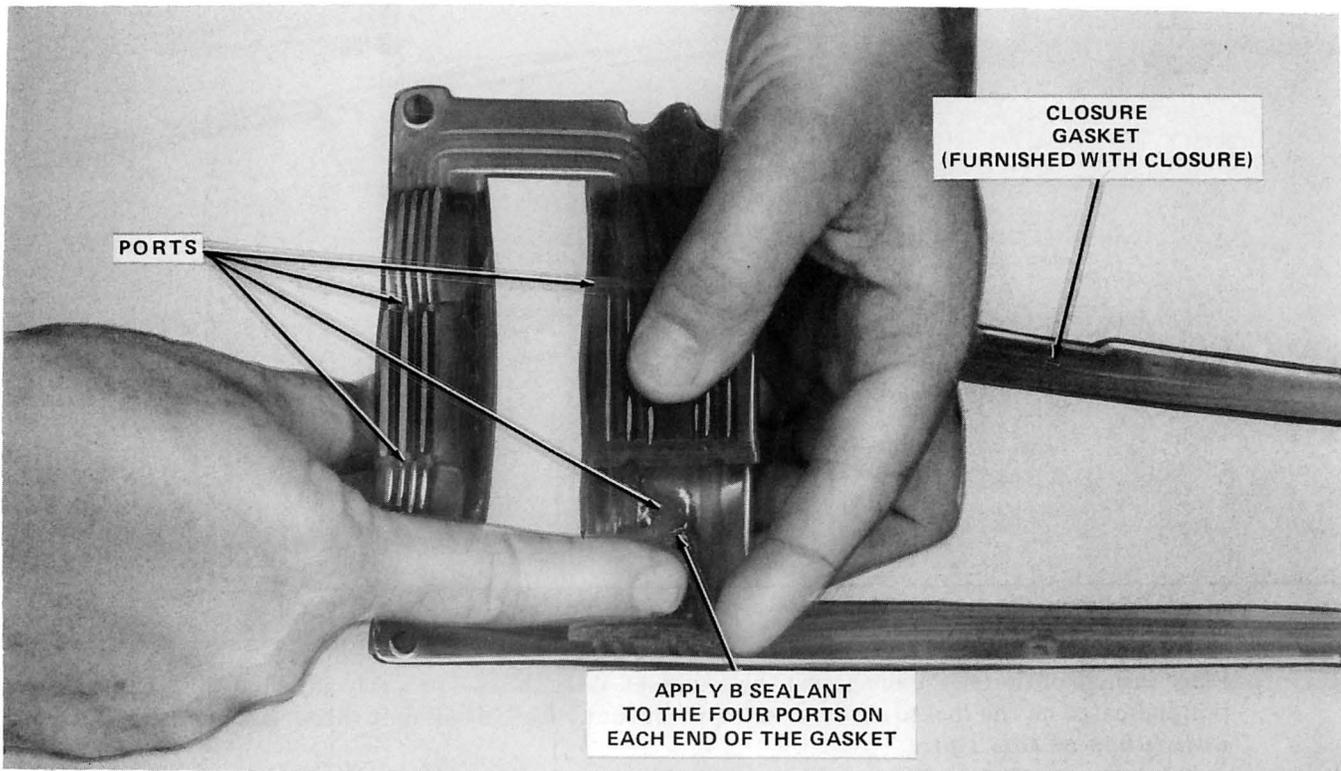
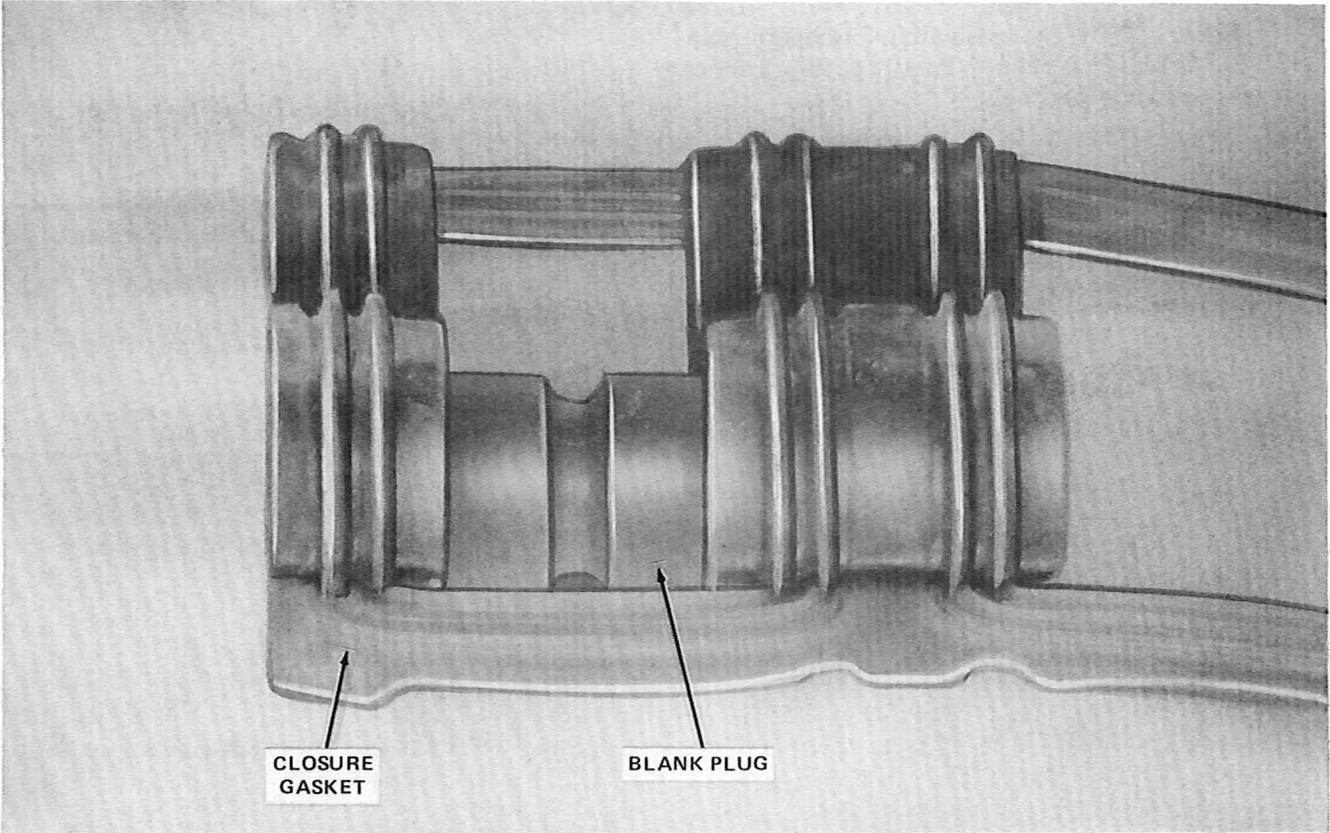

Fig. 35—Applying B Sealant to Ports
Fig. 36—Placing Blank Grommets in Unused Ports of Closure Gasket
5.03 Select the closure gasket furnished with the closure. There are four split ports on each end of the closure gasket. Open the split ports and apply B sealant to all eight ports, as shown in Fig. 35. After sealant is applied, place a blank plug in the ports which will not be used for cable entry, as shown in Fig. 36.